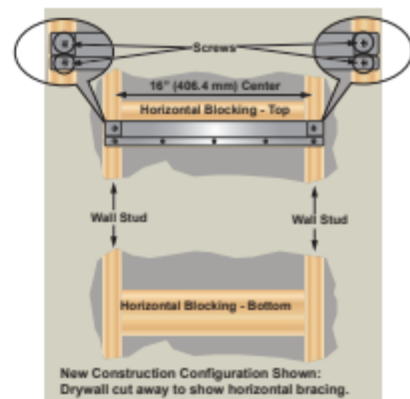

Figure 6 - Wall bracket installation.
1. Secure the wall mounting bracket with the four supplied lag bolts to the wall studs. See Figure 6. DO NOT secure to the drywall only. NOTICE: The supplied fasteners